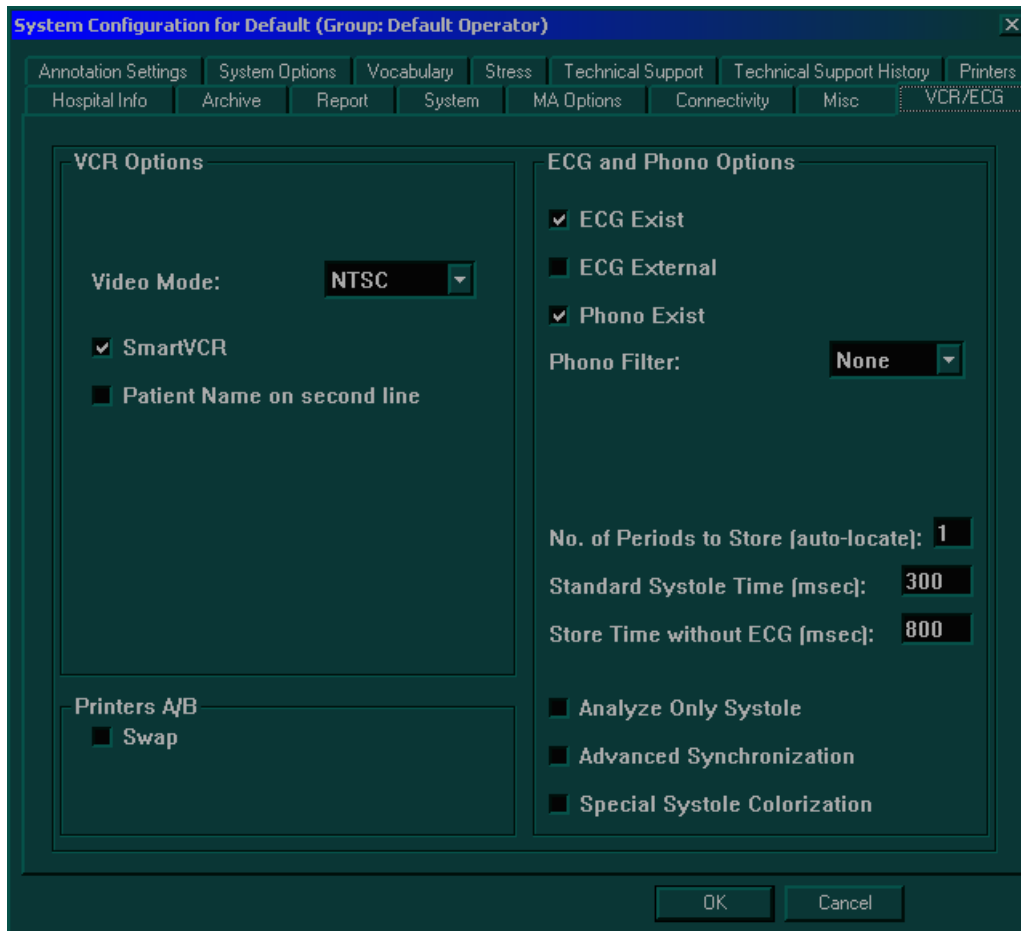

Figure 3-27 VCR/ECG Tab
**NOTE:** The default factory setups are seen in Figure 3-27 "VCR/ECG Tab" on page 3-44. However, the user may want to set different values and presets.